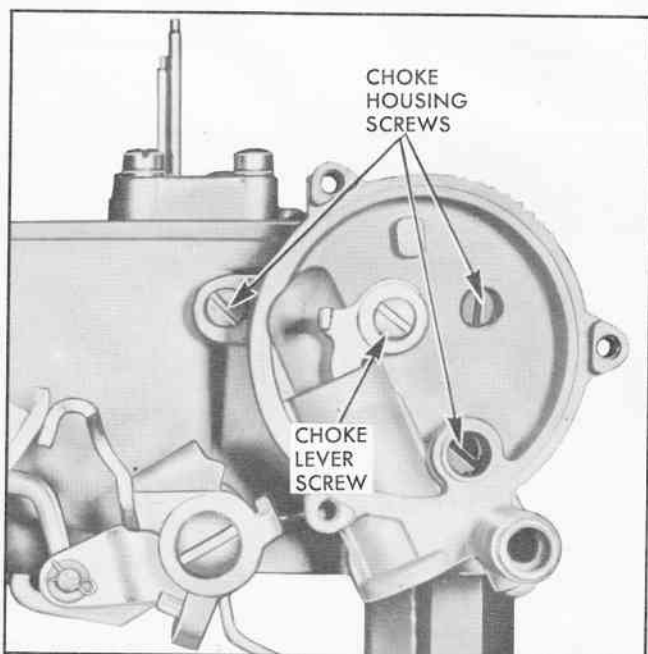

Fig. 11 Location of Choke Housing Screws
3. Remove choke lever attaching screw and retaining washer (Fig. 11). Remove choke piston, lever and link assembly by rotating piston from bore.
4. Remove three choke housing to body attaching screws (Fig. 11), and remove choke housing and gasket.